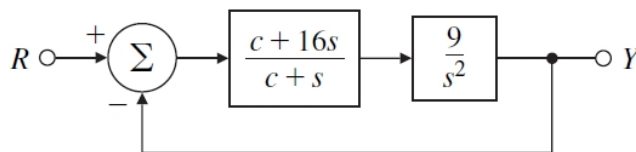

Figure 4: Unity feedback system.
**Problem 5.** For the system shown in Fig. 4, determine the characteristic equation and sketch the root locus of it with respect to positive values of the parameter  $c$ . Give  $L(s)$ ,  $a(s)$ , and  $b(s)$ , (recall that  $L(s) = b(s)/a(s)$ ), and be sure to show with arrows the direction in which  $c$  increases on the locus.